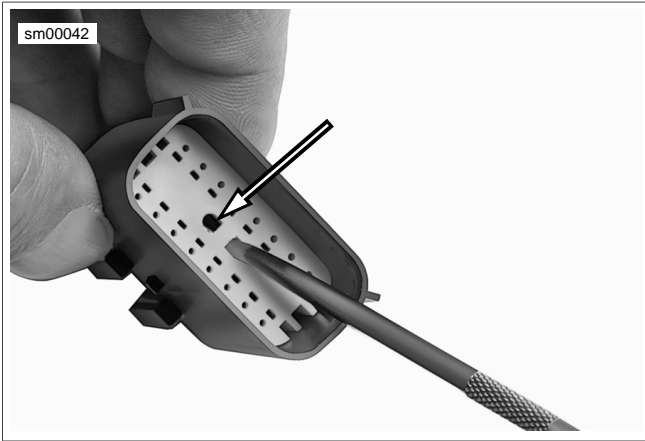

Figure A-37. Molex Connector: Secondary Lock D-Holes (Pin Housing)
- b. **Pin Housing:** See Figure A-37. Use needle nose pliers to engage the D-holes in the center of the secondary lock.